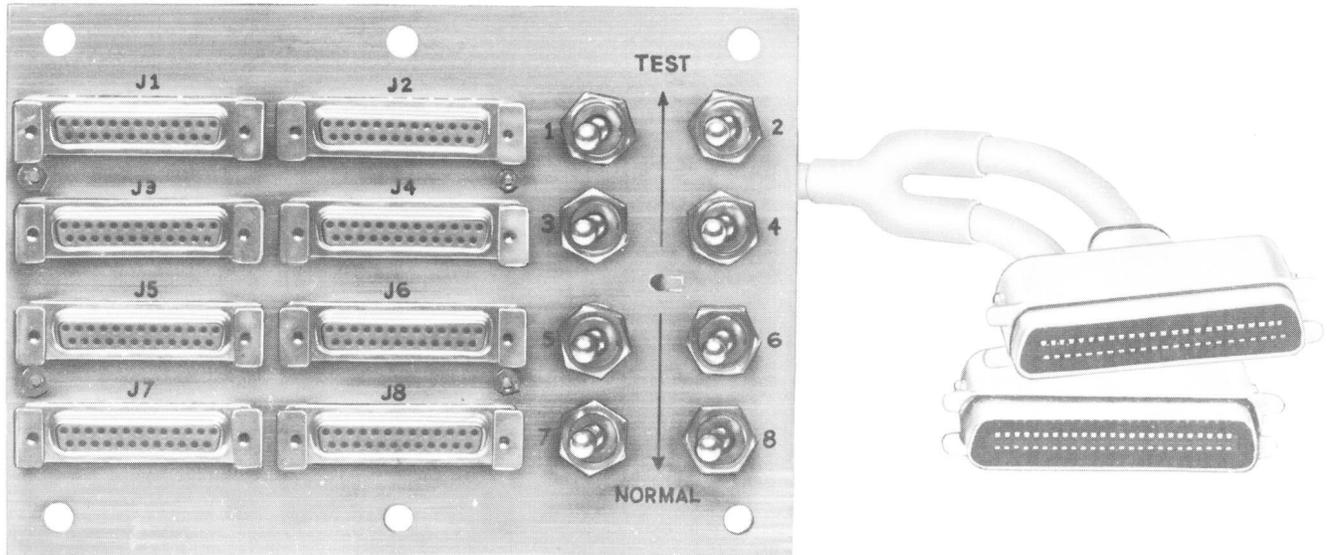

Fig. 4—27B1 Data Unit
2.04 The 27B1 data unit (Fig. 4) is approximately 4-3/4 inches high, 7 inches wide, 1-1/2 inches deep and weighs approximately 2 pounds. The unit consists of a mounting plate containing eight 25-pin interface connections, eight test switches, option straps, and a cord equipped with two 50-pin plugs. The data unit requires no external power.